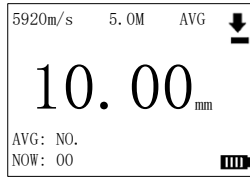

Fig. 4-6: Average Measurement Interface
- **STEP 3:** Press **TEST** to return to the average measuring interface (As shown in Figure 4-6);